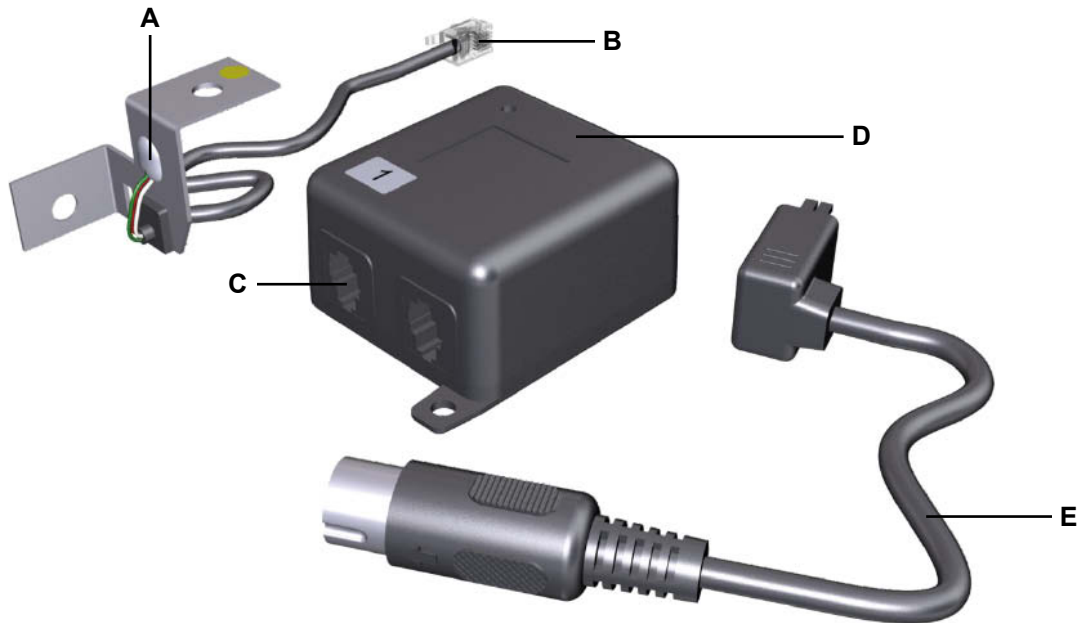

Figure 30 Sensor unit
- ▶ The sensor is attached to both the table frame and the tabletop. The contact point with the tabletop is marked with a yellow dot, as shown in Figure 30.